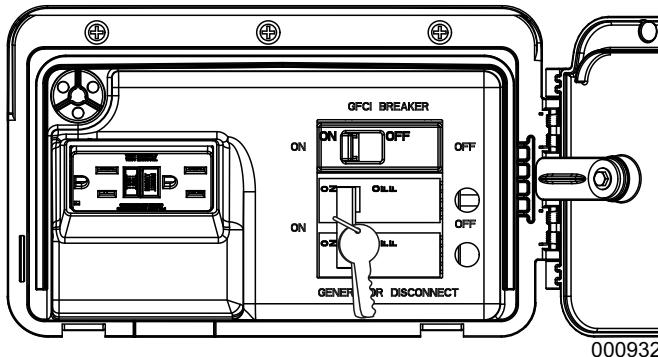

Figure 2-3. Circuit Breaker Box and Keys
4. See **Figure 2-3**. The lid will be locked. A set of keys is attached to the circuit breaker box door with a cable tie. Cut the cable tie to remove the keys. Use the keys to open the lid of the generator.